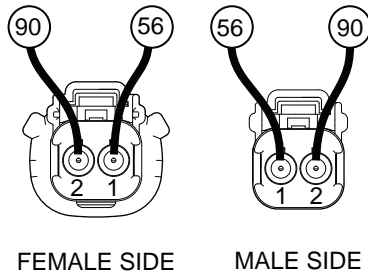

Figure 157. CS Choke Solenoid Connector
2. Disconnect Wire 56 from the starter contactor (SC) and disconnect the choke solenoid (CS)
4. Refer to Figure 157 in reference to the CS connector. Connect one meter test lead to Pin 1 and the other meter test lead to Pin 2, measure and record the resistance.